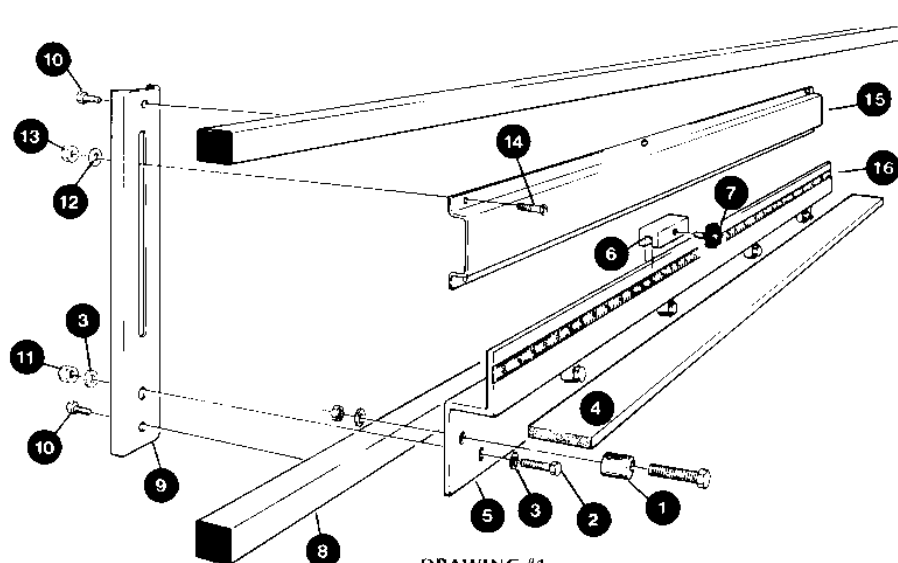

Figure 44: Preassembly of Midway Fence
The Midway Fence Accessory is a removable horizontal workpiece support that mounts halfway up the tool frame. It allows narrow workpieces to be worked at waist height. The fence consists of left and right fixed brackets that mount to the frame, and removable supports for each side. The accessory contains the components shown in Figure 44.
1. Lay out the parts shown in Figure 44 on a horizontal surface (table or bench) for preassembly. Note that one end of each fence extrusion is cut at a 45° angle. The units should be preassembled so that these beveled ends will fit against the center of the tool frame at final assembly.
3. Tip the top of the rear support brackets (#9 in Figure 44) under the **upper** horizontal frame member (#8), raise the fence, and push the lower ends of the rear support brackets down behind the **lower** horizontal frame member. The nuts may have to be loosened slightly to perform this step.
3. Slightly loosen the bolts that secure the aluminum extrusion (#5, Fig. 44) to the rear support brackets (#9), to allow the extrusion to be moved up or down by tapping it with a mallet.